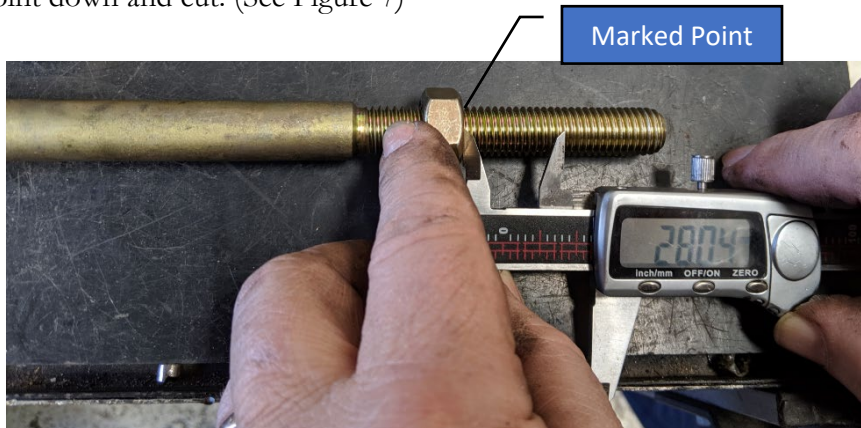

Figure 7. Trimming the Link Pin to Vehicle Specifications
- Remove the assembly from the vehicle, measure approximately 28mm from the marked point down and cut. (See Figure 7)